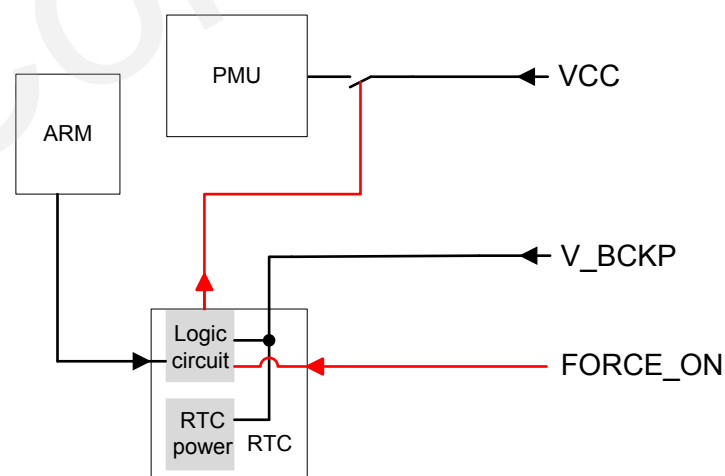

Figure 3: Internal Power Construction
- Sending command: "\$PMTK225,4*2F" (the red line opens the switch in Figure 3) to enter into backup mode forever. The only way to wake up the module is pulling the FORCE_ON high (the red line closes the switch in Figure 3).